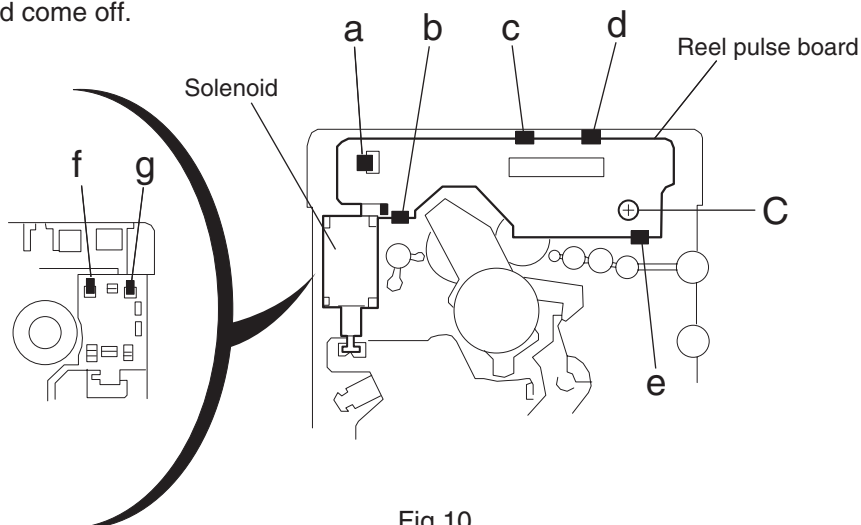

Fig.10
■ Removing the reel pulse board and solenoid (See Fig.10)